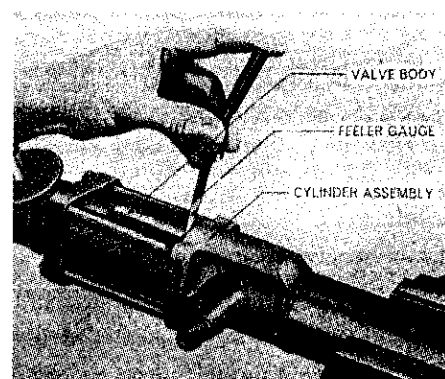

Fig. 39—Method for determining thickness of shims (17—Fig. 37) required for reassembly of cylinder. Refer to text for procedure.
cylinder and boot. Insert second ball seat (14) and shims (17) that were removed plus at least an additional two 0.010 thick shims. Insert spring housing (18) in end of cylinder, but do not install spring (16) at this time. Assemble the cylinder to control valve unit and tighten the four cap screws (48) evenly. This should leave a gap between end of cylinder and control valve housing; if not, remove control valve unit and spring housing from cylinder and add additional shims. Reassemble cylinder unit and spring housing to control valve, then measure gap between cylinder and valve housing with feeler gage as shown in Fig. 39. Record the gap measurement, then remove control valve unit and spring housing from cylinder and remove shim thickness equal to the gap measurement plus an additional thickness of 0.008-0.010. Install remaining shims, spring housing and spring (16) in end of cylinder, then assemble control valve unit to cylinder with two new passage sealing "O" rings inserted in grooves of valve housing. Tighten the four cap screws evenly and securely, then reinstall cylinder and valve assembly on tractor as outlined in paragraph 40.